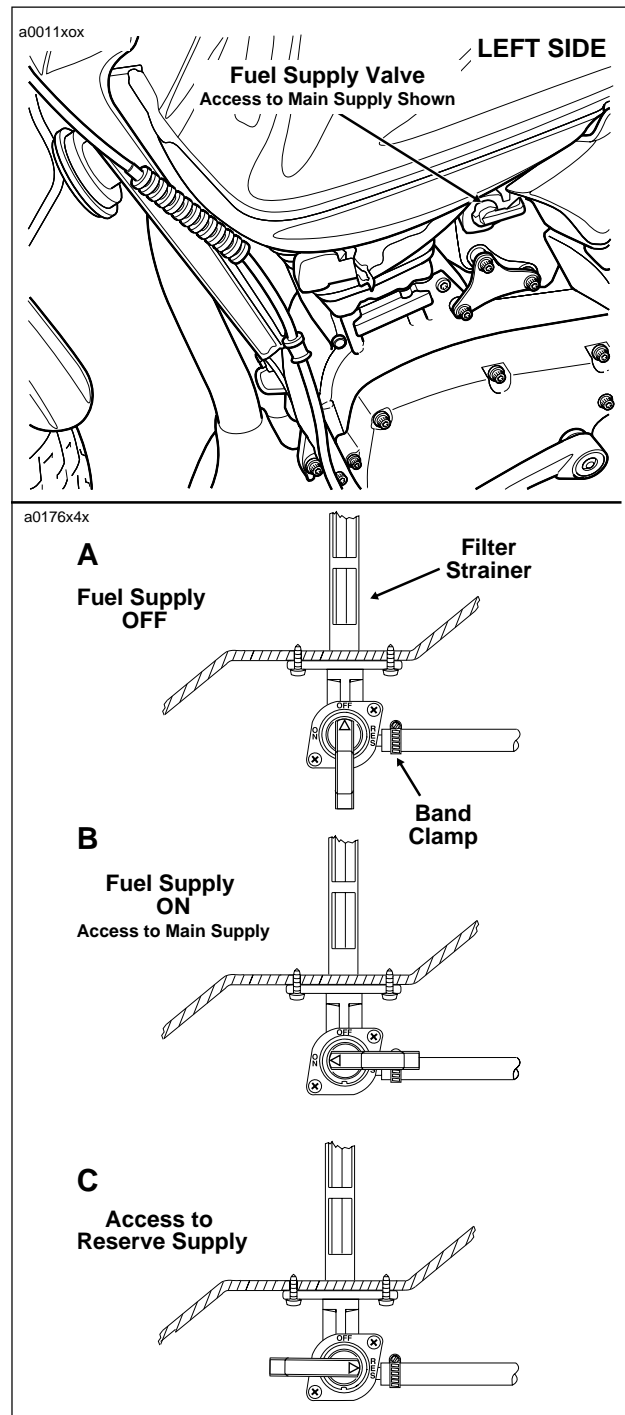

Figure 4-5. Fuel Supply Valve
8. Rotate the 3-position valve handle on the fuel valve to the fully vertical position to shut the gasoline supply to the carburetor OFF. See **A** of Figure 4-5.
The fuel supply valve is located under the fuel tank on the left side of the vehicle. The gasoline supply to the carburetor is dependent upon the position of the valve handle. See upper frame of Figure 4-5.
Turning the 3-position valve handle to the fully vertical position shuts the gasoline supply to the carburetor OFF. Moving the valve handle counter-clockwise to the horizontal position turns the main fuel supply ON. Turning the handle clockwise to the horizontal position accesses the RES(ERVE) supply. See Figure 4-5.
- Rotate handle on the fuel supply valve to the fully vertical position to shut the gasoline supply to the carburetor OFF. See A of Figure 4-5.
- Rotate handle of fuel supply valve to RES(ERVE) to start the flow of fuel. See C of Figure 4-5.
- a. Rotate handle on the fuel supply valve to the fully vertical position to shut the gasoline supply to the carburetor OFF. See A of Figure 4-5.
- d. Rotate handle of fuel supply valve to RES(ERVE) to start the flow of fuel. See C of Figure 4-5.